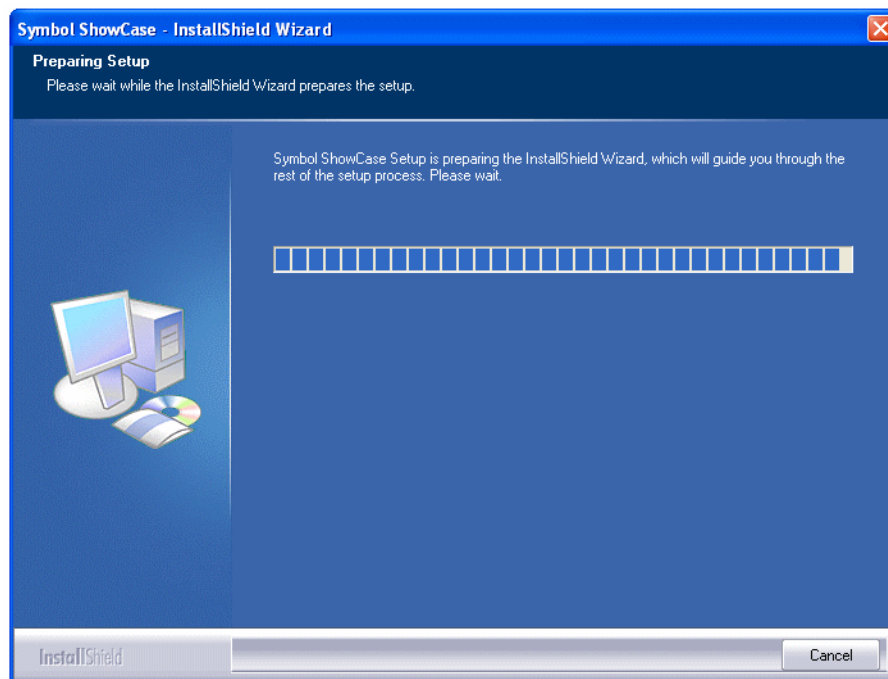

Figure 2-2. Preparing Setup Window
1. Double click the *ShowCaseInstall.exe* file to launch the setup wizard. The *ShowCase InstallShield Wizard* automatically launches the *Preparing Setup* window (see Figure 2-2).